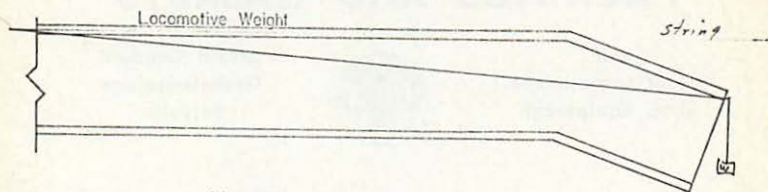

Figure 1
- Step 2. Figure 1 shows two guide strings are run as indicated on slide. The blue string indicates where bed or frame should be when straight. The red string is mounted as shown so it will follow the bent portion of bed when straightening takes place.